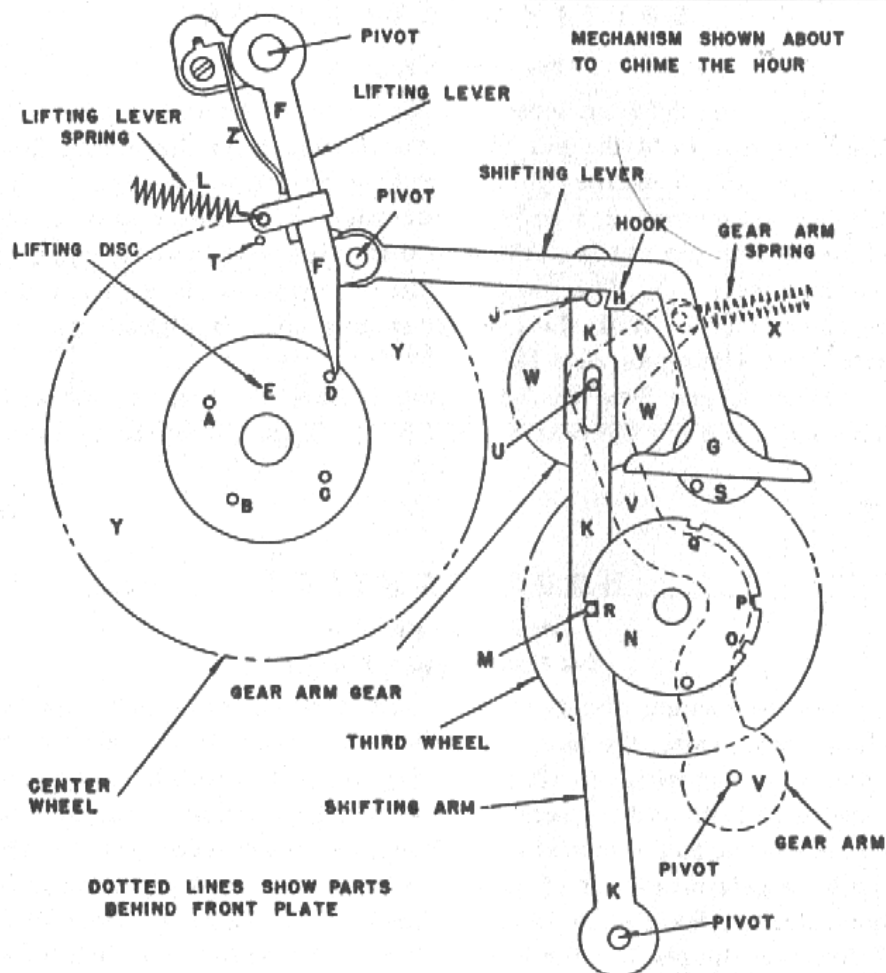

Figure 6
See Figure 6, Page 13
2. Gear arm spring X may be too weak to pull gear arm V out of mesh. Strengthen spring by cutting off two or three coils. See Figure 6, Page 13.
3. Gathering pallet S may be loose on shaft and won't release shifting lever hook H. Reset with pin to bottom and tighten pallet by driving it on its shaft. See Figure 6, Page 13.
1. Lifting lever spring L may not be strong enough to overcome gear arm spring X to pull pin M completely out of its slot in the locking disc N. The teeth may be slightly in mesh and the disc N will turn, locking the pin M against the slot in disc N. Strengthen lever spring L by cutting off a coil or two. See Figure 6, Page 13.